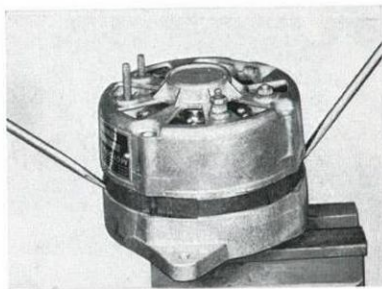

Fig. 3-7. Disassembling alternator
- Remove the rotor and drive end shield with the help of two screwdrivers, which are inserted in two of the slots between the stator and drive end shield, see Fig. 3-7.